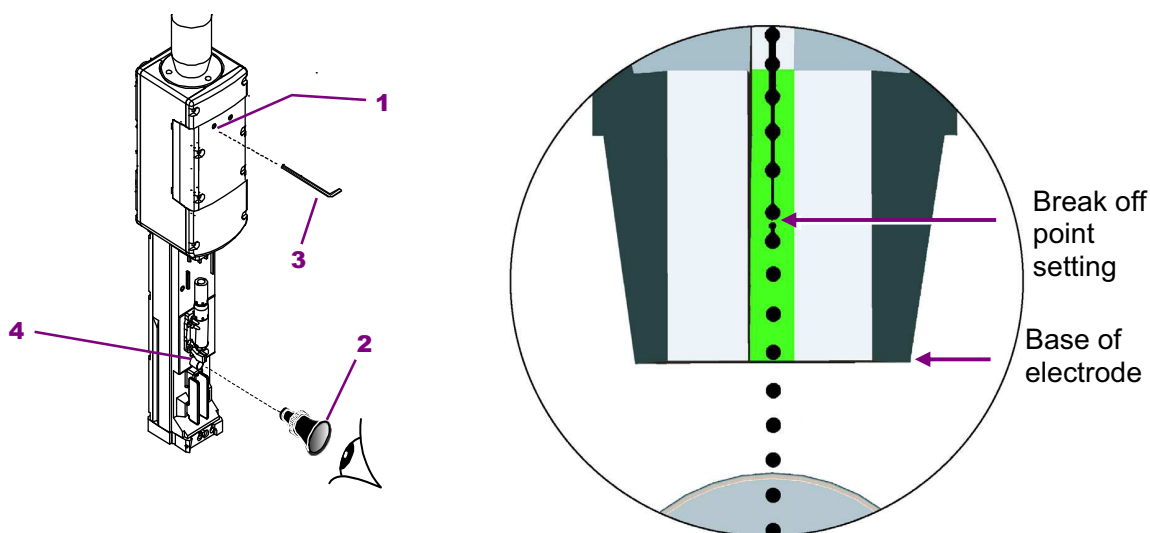

Figure 1
4. The following adjustment is made using the magnifying loop. Look at the jet in front of the charge electrode (strobe LED) (see figure 1):